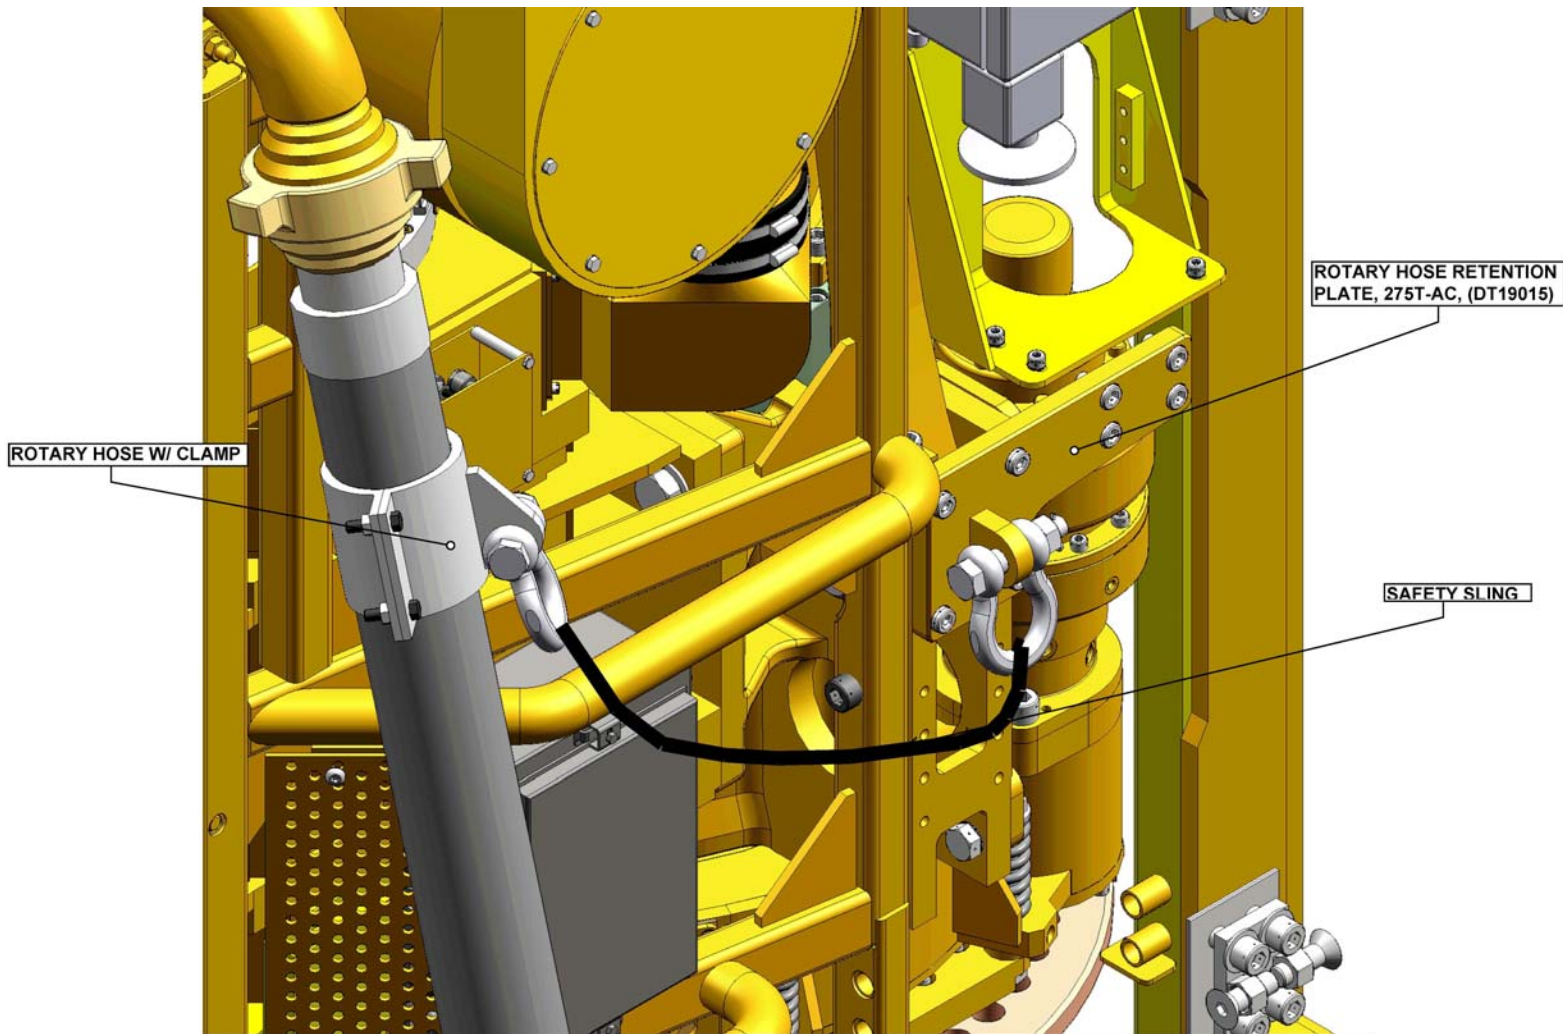

Fig. 1
1. Remove existing Connector Plate with (8) 3/4"-10UNC capscrews and replace with Rotary Hose Retention Kit (AY16643) for 275T-AC Top Drive which includes Rotary Hose Retention Plate (DT19015) with (8) 3/4"-10UNC x 1 1/4" (SH-0750NC-0125-W) capscrews and (8) Nordloc washers (LW-0750-NLS). See Fig. 1.
2. Torque the (8) 3/4"-10UNC x 1 1/4" LG capscews to 350 ft-lbs and safety wire with (M21-2000-010) and (M19-3006-010).
4. Install other end of sling to other shackle and install on the Rotary Hose Clamp. Tie-wrap slings to eliminate excess slack with (E03-2000-010). Final assembly should be as shown in Fig. 1.